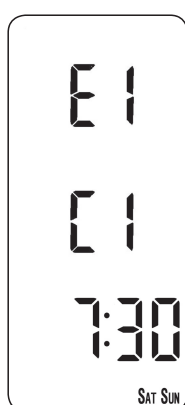

Fig. 25
- a) Press the **DAY** button until the first preset time (Event 1 for Programme B) appears in display (**Fig. 25**).